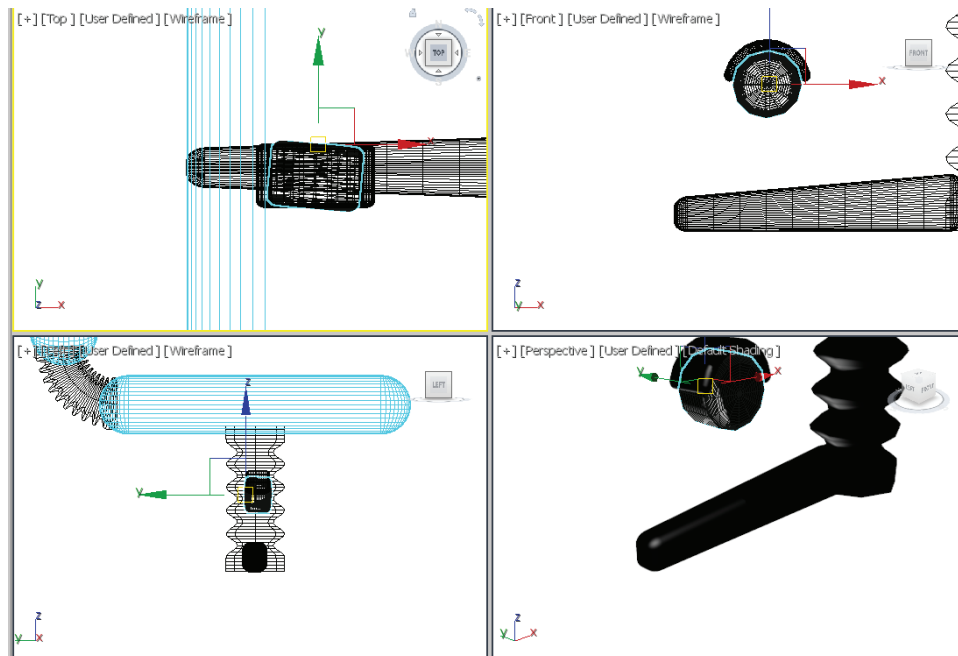

Figure 3-44 Alignment of cylinder01 with box01 in viewports
14. Align *cylinder01* with *box01* in the viewports using the **Select and Rotate** and **Select and Move** tools, refer to Figure 3-44.